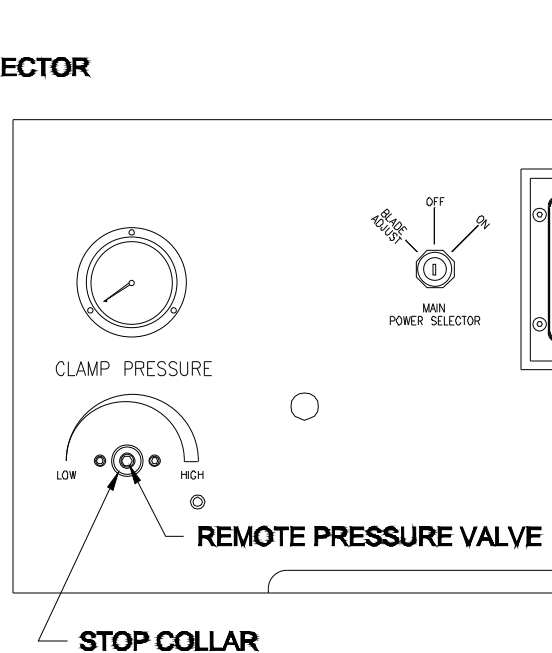

Fig 46A
2. Remove the “Stop Collar” Fig 46A with a 3/32” Allen wrench. Use a 3/16” Allen wrench in the “Remote Pressure Valve” stem to keep it from turning.
3. Turn the “Remote Pressure Valve” Fig. 46A with a 3/16” Allen wrench, clockwise till it stops.
8. The clamp maximum pressure is 1500 psi. With the Allen wrench turn the “Remote Pressure Valve” Fig. 46A stem counterclockwise to lower the pressure to 1500 psi. Press the “Red Clamp Button” and the “Right Black Cut Button” to bring the clamp down. Repeat this step until the “Pressure Gauge” reads 1500 psi.
9. Reinstall the “Stop Collar”. Fig. 46A. Hold the stem while threading the “Stop Collar”. Bottom the “Stop Collar” to the “Remote Pressure Valve” body and tighten the setscrew.